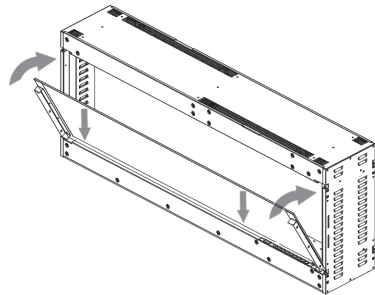

Fig. 1
- A. Have 2 people lift the glass up. Place the bottom side of the glass into the appliance and then pivot it until the glass is touching the side panel (**Fig. 1**).